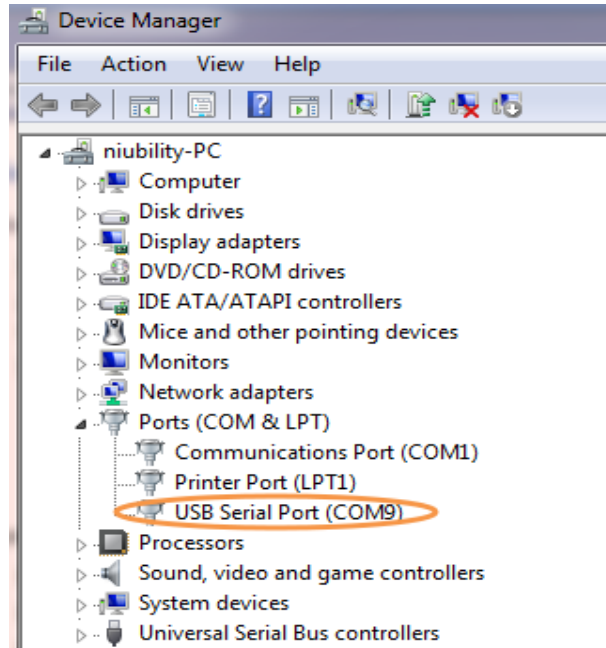

Figure 6-5 Check the assigned Com Port number On PC
- Open the Device Manager to ensure which common port is assigned to the uart to usb port as shown in **Figure 6-5**.The common number 9 is assigned on this computer.
- Open the putty software and setup the parameter as shown in Figure 6-5 and click open button to open the terminal.